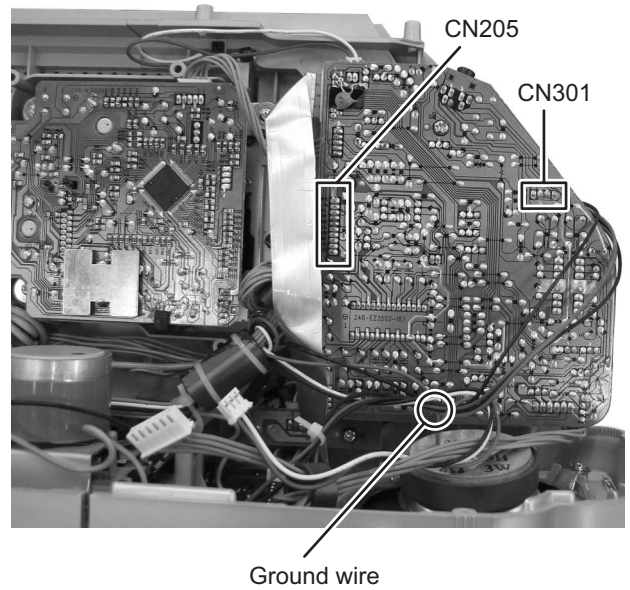

Fig.5
### 3.1.2 Removing the Top cabinet assembly (See Fig.5, 6)
- (1) Disconnect the connector wire from Cassette mechanism assembly connected to connector **CN205** of the Amplifier board assembly. (See Fig.5)
- (2) Disconnect the connector wire from speaker connected to connector **CN301** of the Amplifier board assembly. (See Fig.5)
- (3) Remove the solder the grand wire from Cassette mechanism assembly soldered to Amplifier board assembly. (See Fig.5)